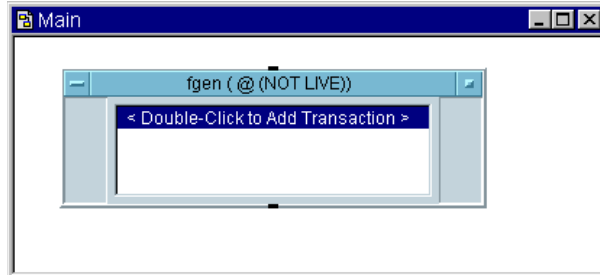

Figure 93 A Direct I/O Object
- 4 To place the object on the screen, make sure that **fgen@(NOT LIVE)** is still highlighted, and click **Create I/O Object** ⇒ **Direct I/O**. Figure 93 shows the Direct I/O object.